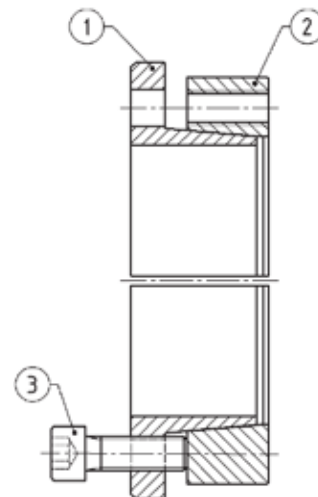

Figure 2
2. Loosen all locking screws by a minimum of four (4) turns and transfer at least three (3) screws into push-off threads in order to keep Parts 1 and 2 separated during assembly (see Figure 2).
(Refer to Figure 2)